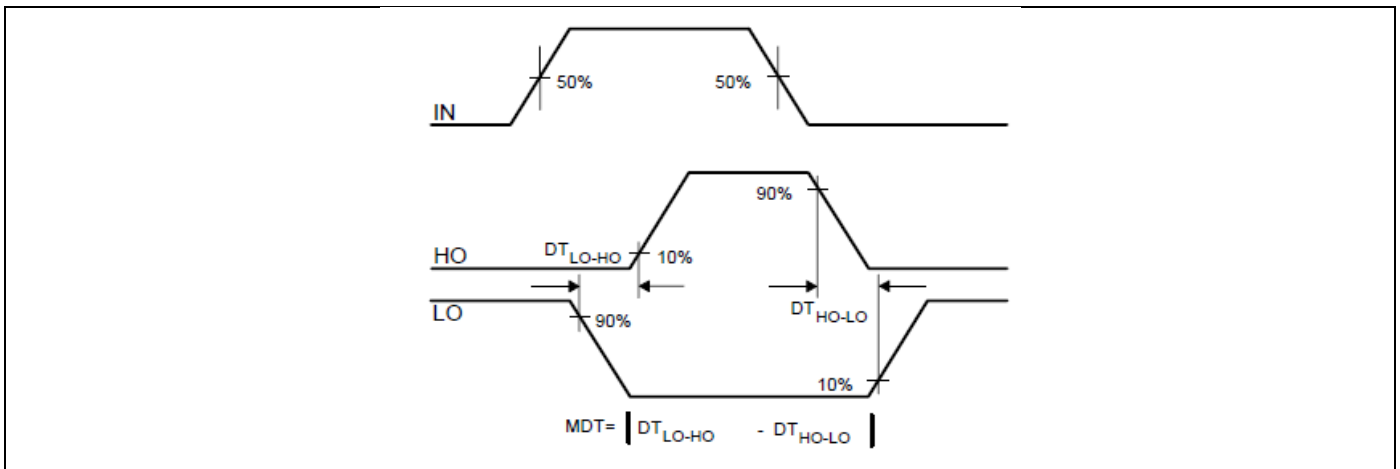

Figure 8 Deadtime matching waveform definition
This family of HVICs features integrated deadtime protection circuitry. The deadtime is fixed for 2ED2109S06F; is programmable for 2ED21094S06J, it is greater design flexibility. The deadtime feature inserts a time period (a minimum deadtime) in which both the high- and low-side power switches are held off; this is done to ensure that the power switch being turned off has fully turned off before the second power switch is turned on. This minimum deadtime is automatically inserted whenever the external deadtime is shorter than internal deadtime; external deadtimes larger than internal deadtime are not modified by the gate driver. Figure 8 illustrates the deadtime period and the relationship between the output gate signals.
The deadtime circuitry of 2ED2109 (4) S06F (J) is matched with respect to the high- and low-side outputs. Figure 8 defines the two deadtime parameters (i.e., DT_{LO-HO} and DT_{HO-LO}); the deadtime matching parameter (MDT) associated with the 2ED2109 (4) S06F (J) specifies the maximum difference between DT_{LO-HO} and DT_{HO-LO} .